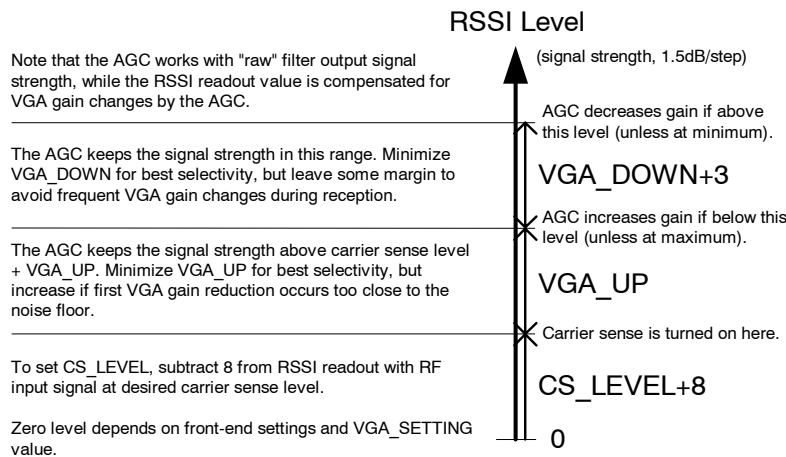

Figure 20. Relationship between RSSI, carrier sense level, and AGC settings CS_LEVEL, VGA_UP and VGA_DOWN
A digital RSSI is used to measure the signal strength after the ADC. The `CS_LEVEL[4:0]` in the `VGA4` register is used to set the nominal operating point of the gain control (and also the carrier sense level). Further explanation can be found in Figure 20.
5. If desired, adjust the VGA_UP and VGA_DOWN settings according to the explanation in Figure 20.
$CS_LEVEL[4:0]$ sets the threshold for this specific $VGA_SETTING[4:0]$ value. If the $VGA_SETTING[4:0]$ is changed, the $CS_LEVEL[4:0]$ must be changed accordingly to maintain the same absolute carrier sense threshold. See Figure 20 for an explanation of the relationship between RSSI, AGC and carrier sense settings.